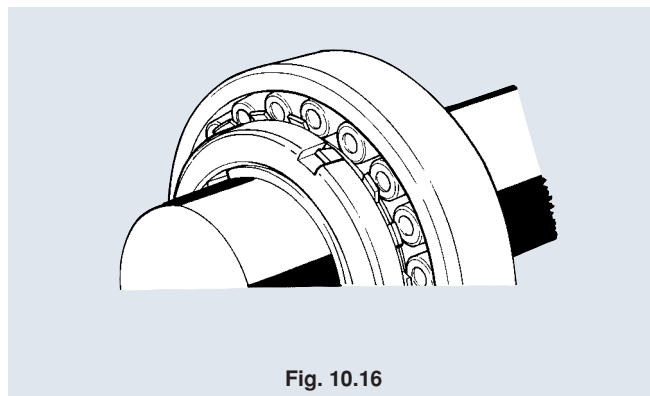

Fig. 10.16
- (8) Make sure the bearing clearance is as specified, then bend one tab on the washer that corresponds with the cutout on the circumference of the nut to maintain the adjustment (**Fig. 10.16**). Do not loosen the nut to allow the cutout to match the tab.
- (9) When a large bearing is installed to a shaft, its outer ring will be deformed by its own weight into an elliptical form. The clearance measurement at the lowest point on a deformed bearing will be greater than a true clearance. Remember that a radial clearance value measurement at this point will result in excessively large tightening allowance.